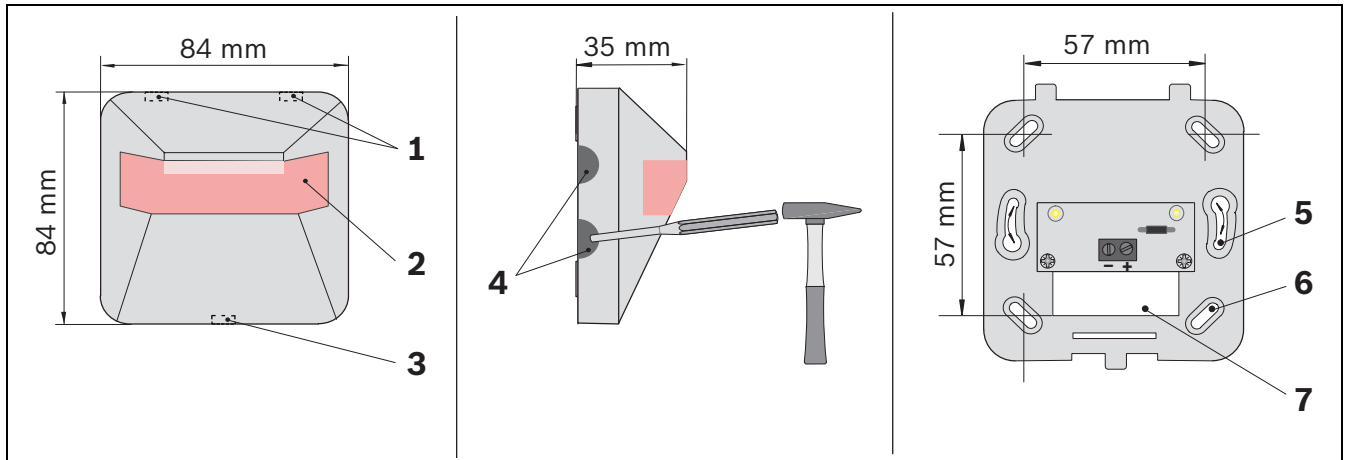

Figure 3.14 FAA-420-RI dimensions and mounting
The FAA-420-RI must be installed such that the broad side of the red alarm indication (see *Figure 3.14 (2)*) follows the observer's line of sight.
- Before assembly, remove the cap from the base plate: Unlock the snap-fit hook (see *Figure 3.14 (3)*) with a flat object (e.g. screwdriver), press in and lift the cap carefully.
- Mount FAA-420-RI directly on the ceiling or wall. Secure the base plate with two (see *Figure 3.14, (5)*) or four (*6*) screws on an even, dry foundation.
- For surface-mounted cable insertion, break out the pre-punched cable feeds (see *Figure 3.14 (4)*) on any side of the housing. For flush-mounted cable insertion, the cable is fed in through the opening (see *Figure 3.14 (7)*) beneath the connection board.
- Place the housing on the base plate so that the two hooks (see *Figure 3.14 (1)*) are inserted into the two slits. Press the cap lightly onto the base plate until the snap-fit hooks (*3*) engage.